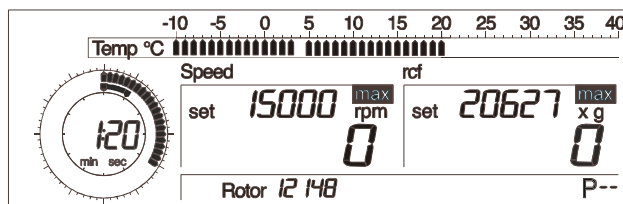

Fig. 5.16: Set temperature below actual temperature
- If the selected temperature (= set temperature) is below the actual temperature, the set temperature will be represented by a flashing bar on the temperature scale (Fig. 5.16).